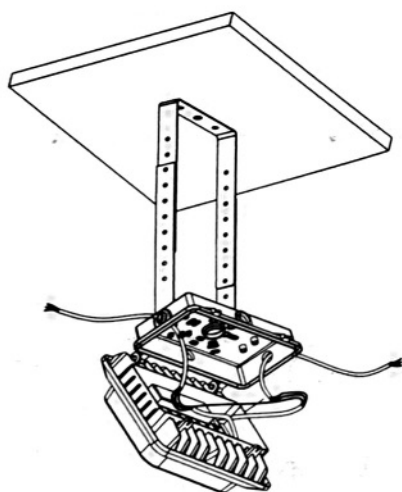

Figure 3-9
9. Connect the input line and ground; If the fixture is equipped with sensor, adjust the sensor settings; Take relevant waterproof measures after the wires are connected ;Figure 3-9